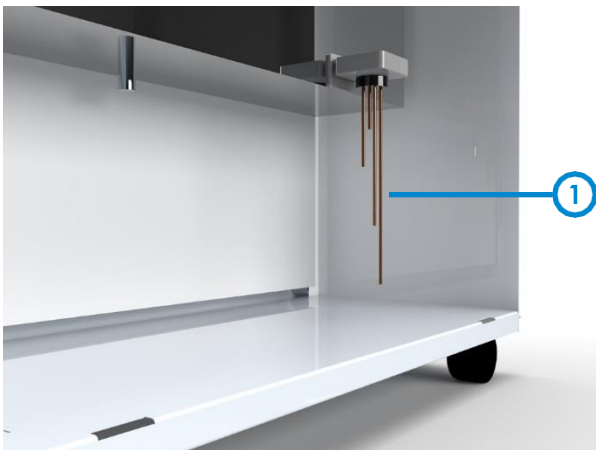

Fig. 4.2.6: Electrode rods for water level measurement
| Every 3 months | Change the evaporation filter disk (↪ see chapter "4.4 Changing the evaporation filter disk" on page 18). Change the cleaning filter (↪ see chapter "4.5 Changing the cleaning filter" on page 20). Clean electrode rods for water level measurement (↪ see Fig. 4.2.6 on page 19). |
7. Check the electrode rods for water level measurement (Fig. 4.2.6/1) for dirt. If necessary, remove limescale and other residues with a cloth or sponge.